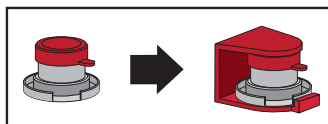
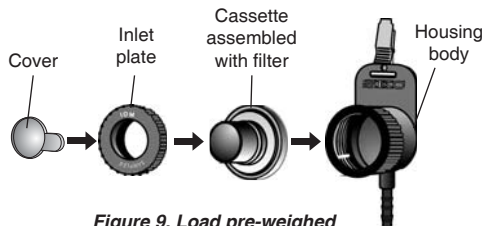

Figure 8. Insert cassette with cover into transport clip
Figure 9. Load pre-weighed cassette into an IOM housing body; include cover.
If not ready to sample immediately or if transporting pre-weighed loaded cassettes to a sampling location, place the cassette with cover into the provided transport clip (Figure 8). Ensure the cassette cover is in place. An alternative is to insert the loaded cassette into an IOM housing body and place the cover on the cassette opening (See *Loading a Cassette into the IOM Housing Body* and Figure 9). Users may wish to transport loaded cassettes or loaded IOM housing bodies in a sterile plastic bag depending on the contaminant of interest.
5. After sampling, stop the pump. Unscrew the inlet plate from the housing body and remove the cassette from the sampler (may use sterile forceps and gloves depending on the contaminant of interest). Place the cover on the cassette and wipe the external surface of the cassette with a clean lint-free paper, cloth, or soft brush (may use sterile items depending on the contaminant of interest). Place cassette with cover into the supplied transport clip (Figure 8). For post-weighing instructions, see *Analysis* on page 9. If not performing post-weighing on the premises, see *Transporting Samples to a Laboratory* on page 9.
Immediately following sampling, unscrew IOM inlet plate and remove cassette from housing body. Place cassette cover on cassette and insert into a transport clip (Figure 8). Place unit into a sterile plastic bag depending on the contaminant of interest. Package in a padded envelope and send to a laboratory for analysis. Include pertinent sampling information and blanks (*see Sample Blanks*). If post-weighing on the premises, *see Analysis*.